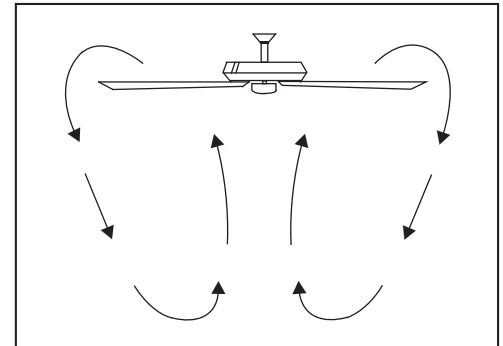

Figure 17
**Cool weather** - (Clockwise direction) An upward air flow moves warm air off the ceiling as shown in Figure 17. This allows you to set your heating unit on a lower setting without affecting your comfort.